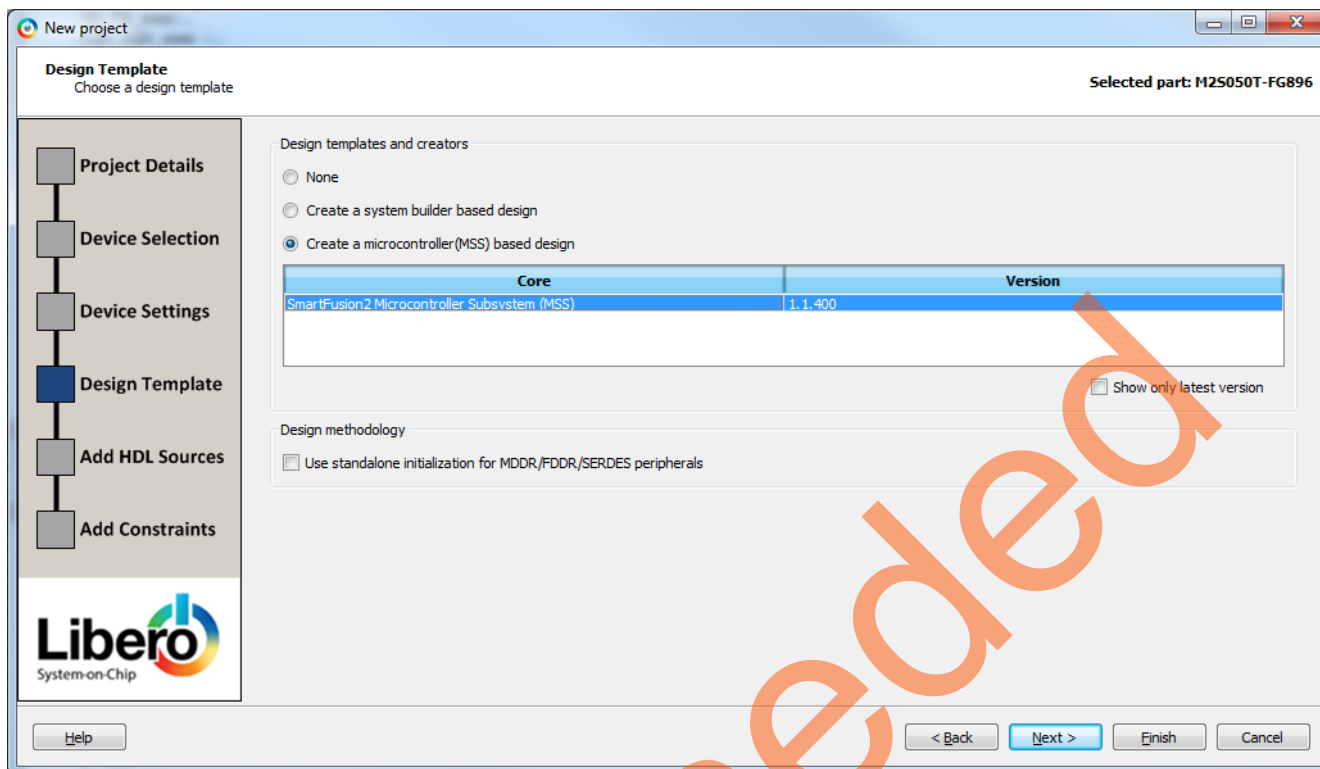

Figure 4. New Project – Design Template Page
7. Click **Next**. The **Design Templates and Creators** window is displayed, as shown in Figure 4.
If the selected MSS core appears in normal font, as shown in Figure 4, it indicates that the MSS core is present in vault.